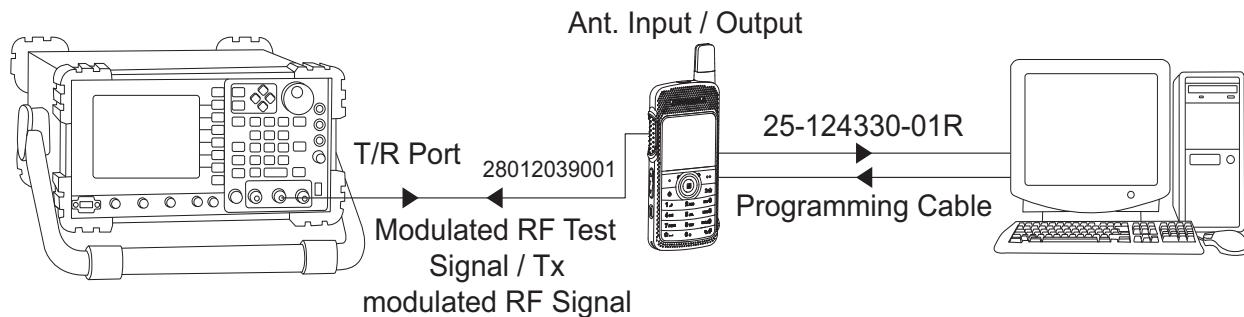

Figure 3-1. DMR Radio Transmitter and Receiver Testing Setup
Set up the DMR Transmitter and Receiver Test as per Figure 3-1.
- d. Connect the other end of the RF antenna adaptor to the T/R port of the Radio Test Set 3920 using the RF cable shown in Figure 3-1.